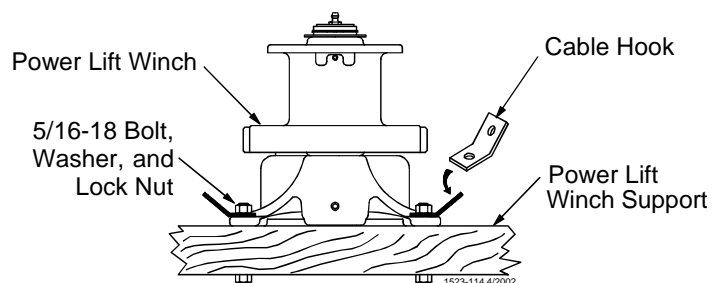

Figure 6. Assembling the Power Winch to the Rafters
2. Install a Cable Hook, supplied in Hardware Package, between the mounting bolt and Power Winch frame, as shown in **Figure 6.**